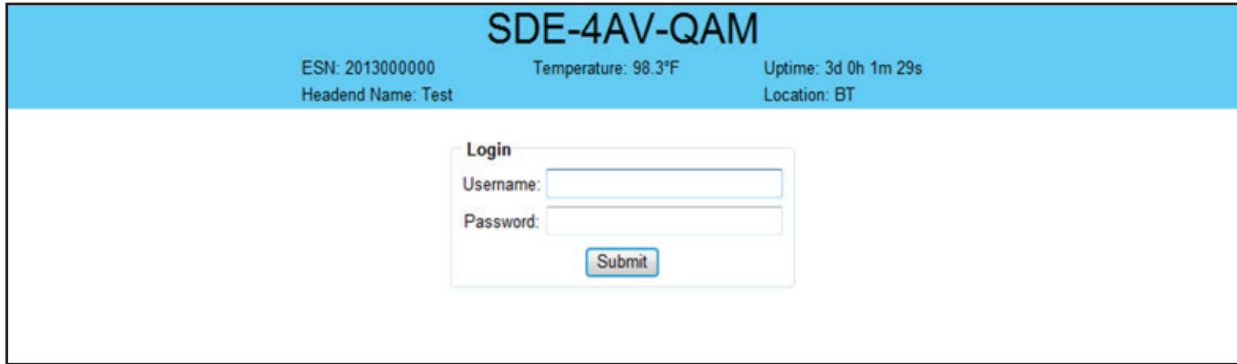

Figure 5.1 - "Login" Screen
(1) Open a web browser on your computer (Internet Explorer 7 or higher is recommended) and enter the following URL address (**http://172.16.70.1**). The "Login" Screen (Figure 5.1) will appear.